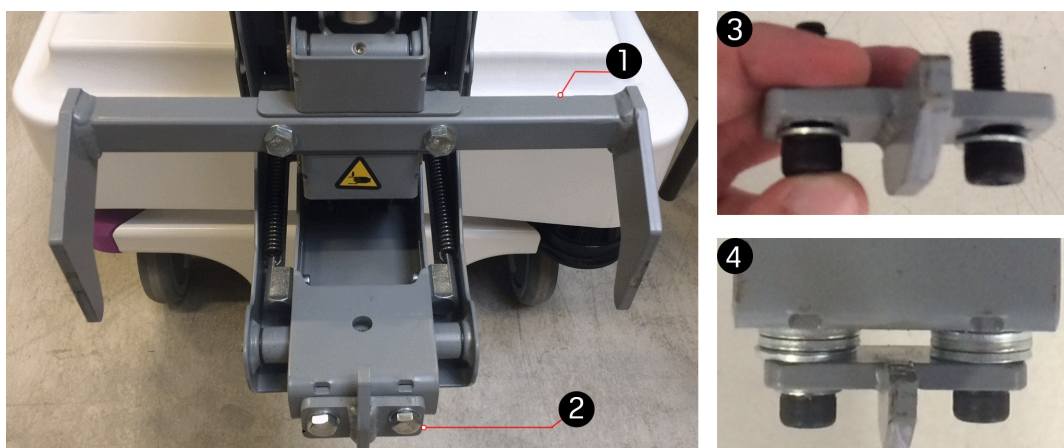

Figure 5.2. Parts included for gripper modification
It is possible to modify the gripper, if the length or thickness of the cart is slightly out of the specification. Refer to *Figure 5.2* to identify the parts required to modify the gripper. The gripper length can be altered by unscrewing the upper gripper (1) and changing the length between the arms. The lower-gripper (2) can be modified to enable a greater gripper area thickness. This is done by removing the lower-gripper (3) and adding spacers to the mounting of it(4).